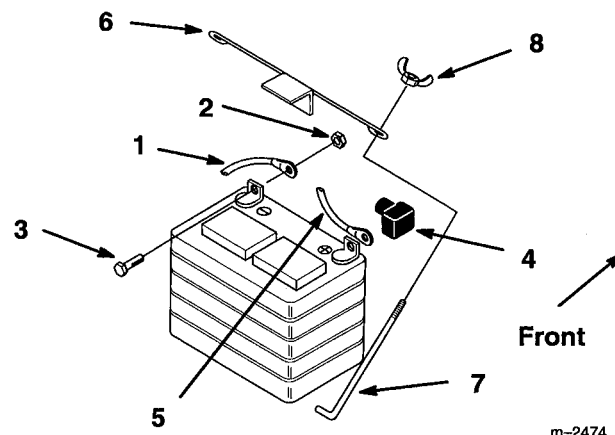

Figure 38
3. Disconnect the negative (black) ground cable from the battery post (Fig. 38).
4. Lift the rubber cover up on the positive cable. Disconnect the positive cable (red cover) from the battery post (Fig. 38).
5. Remove the battery hold down rods (Fig. 38). Lift battery from tractor
6. Install the battery into the chassis (Fig. 38).
7. Secure battery in chassis with hold down rods and wing nuts (Fig. 38).
8. Using the bolt and locknut, connect the positive (red cover) cable to the positive (+) battery post (Fig. 38). Slide the rubber cover over the battery post.
9. Using the bolt and nut, connect the negative (black) cable to the negative (-) battery post (Fig. 38).